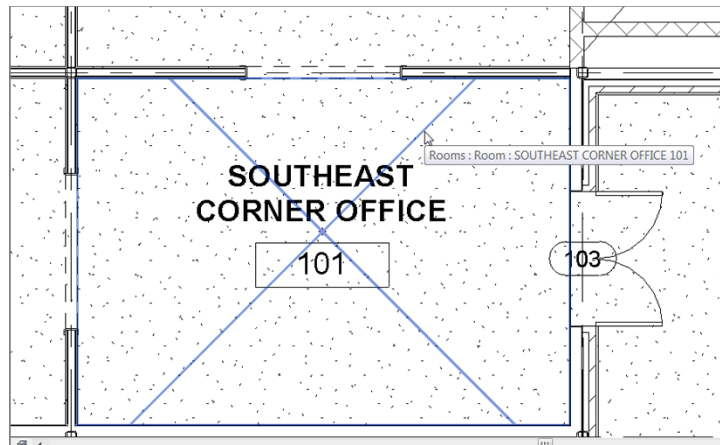

FIGURE 15.3: Changing the room name and number to SOUTHEAST CORNER OFFICE and 101, respectively
5. Change the number to **101** (see Figure 15.3).